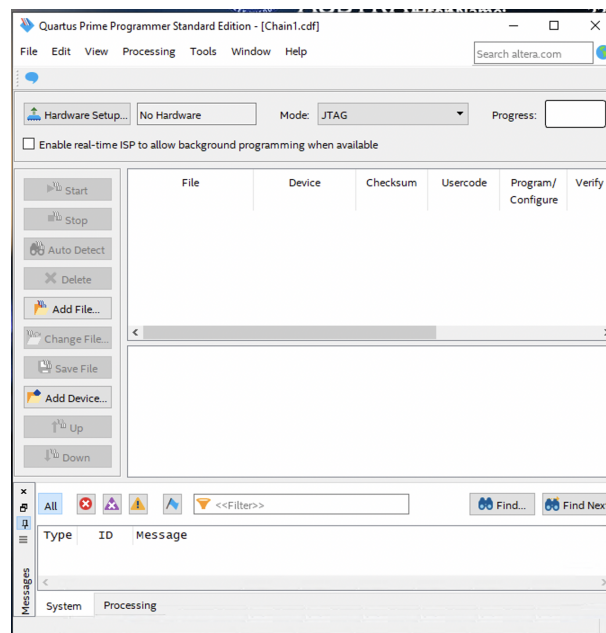

Figure 3: Programmer Interface Upon Launching
3. Run the Quartus Programmer software. You will be presented with the screen shown in Figure 3.